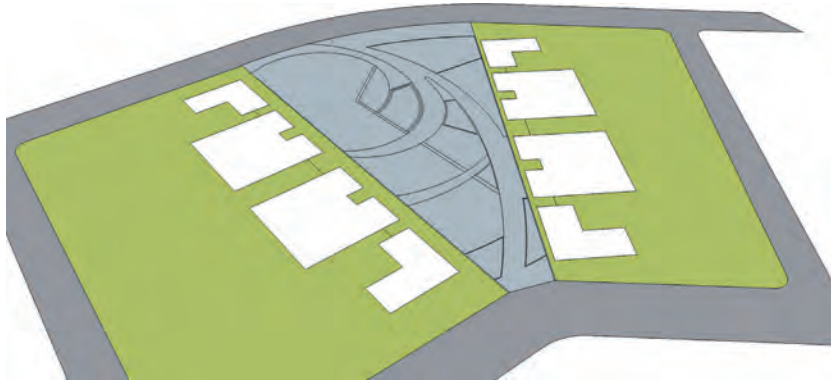
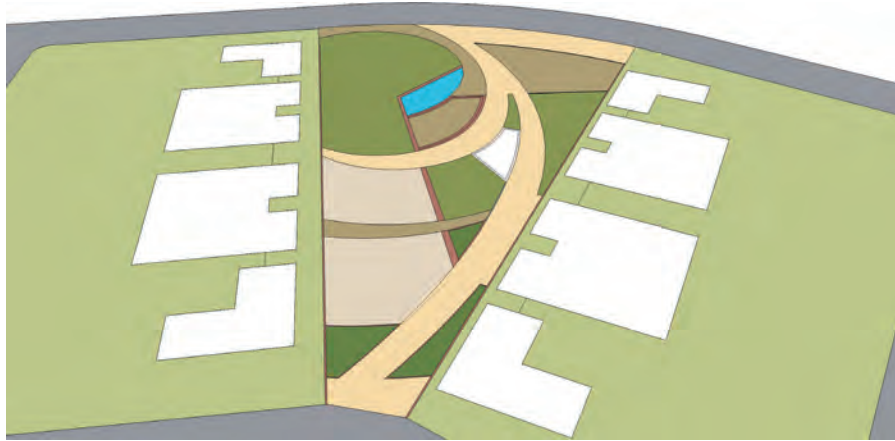

Fig. 18-28: Add color to the roads, lawn area, and buildings.
Fig. 18-30: The base with all the surface areas applied with colors and materials
1. Add color to the faces to better represent the intent of the surfaces (Fig. 18-28 through Fig. 18-30).